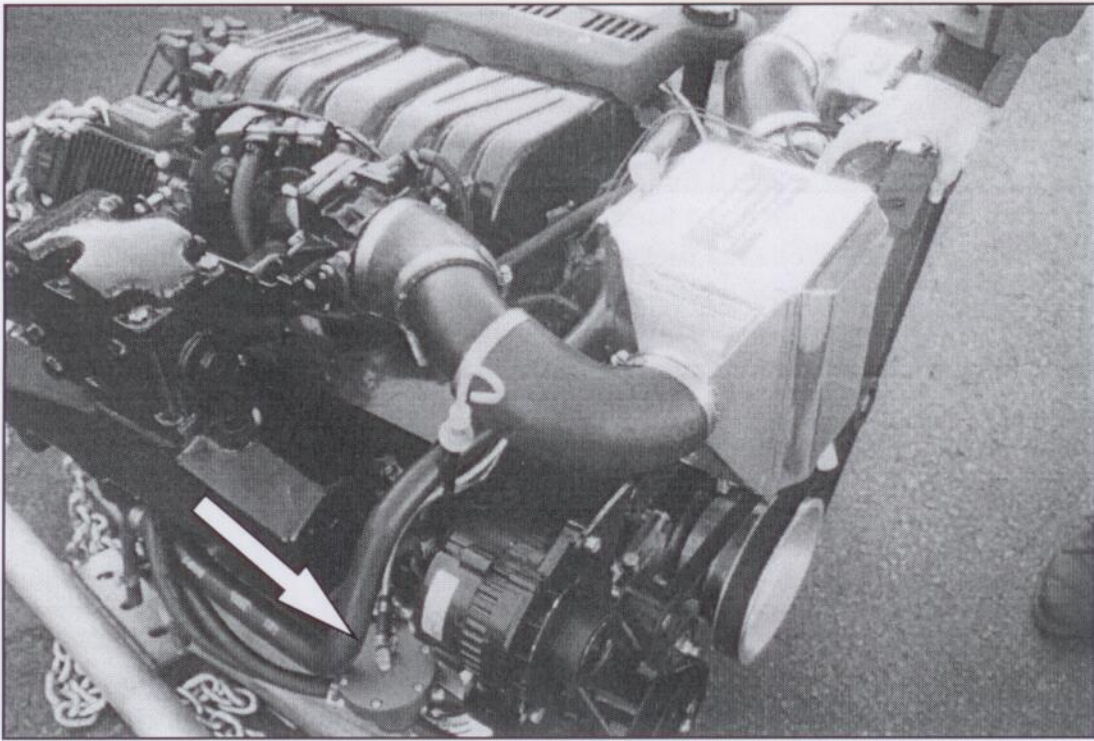

FIGURE G3
6. Using the outermost bolt on the alternator, attach the ATI regulator with bracket to the motor. There is a second line on the separator that runs to the fuel pressure regulator interface on the fuel cooler. Unscrew the line from the fitting on the separator. Attach the line to the inlet (the port with the female inverted flare fitting) of the regulator. Attach the outlet line from the regulator (fitting on the bottom marked "ret") to the fitting on the separator. See figure G3.